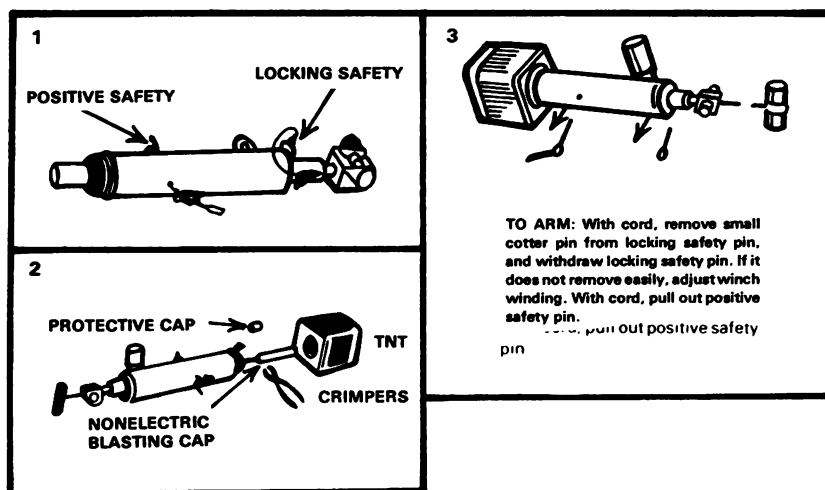

Figure 3. M3 pull release firing device.
3. To install an M3 pull-release firing device (figure 3).